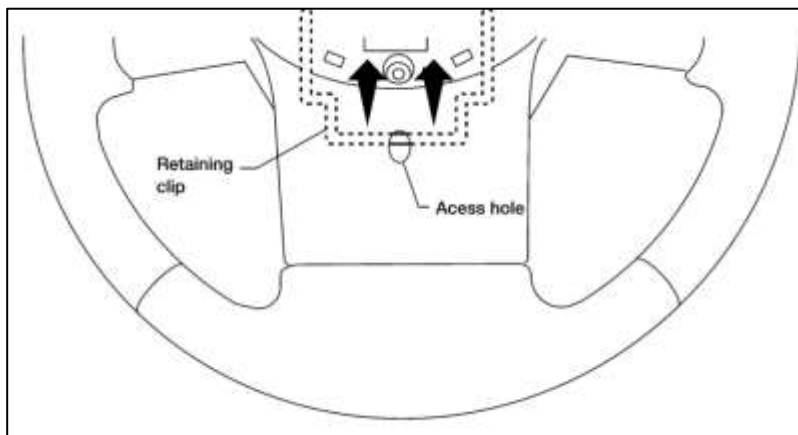

Figure 8
- b. Insert a small Screwdriver or similar tool and press upwards on the retaining clip until the Airbag is released from the Steering Wheel. *Figure 8.*